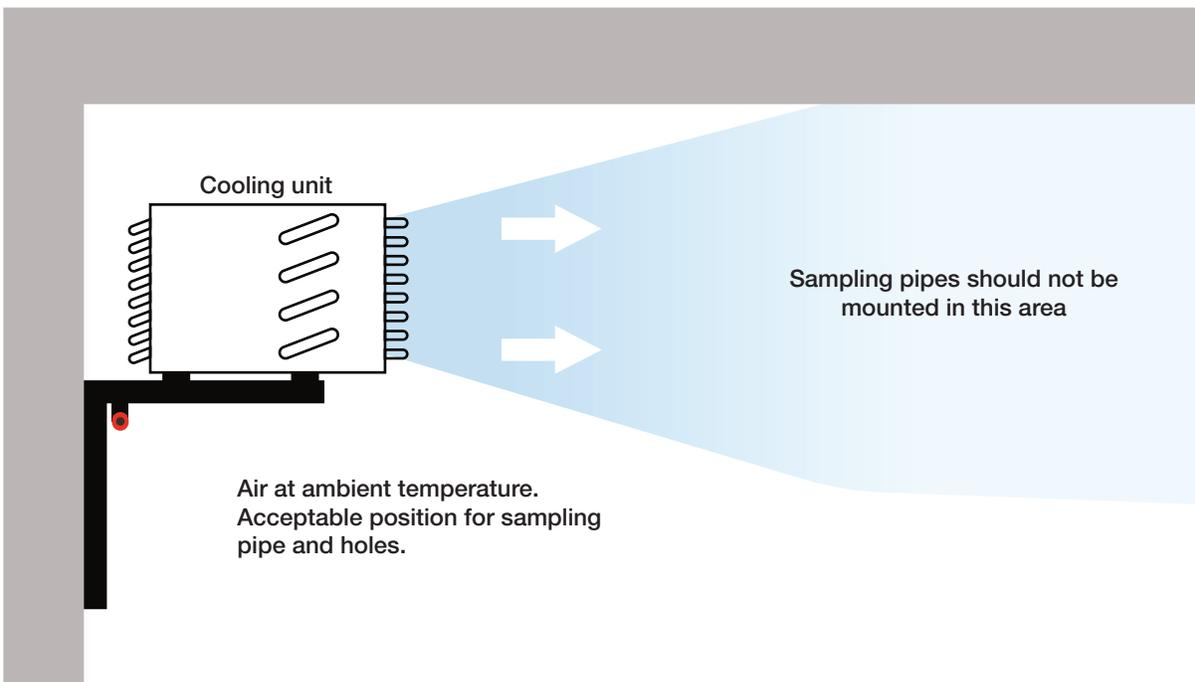

Figure 11. Locating pipes in cold storage
3. It is advisable to add as much distance as possible from, or even avoid, the direct air currents applied by the conditioning machines, since these can expel extremely cold air (Figure 11).